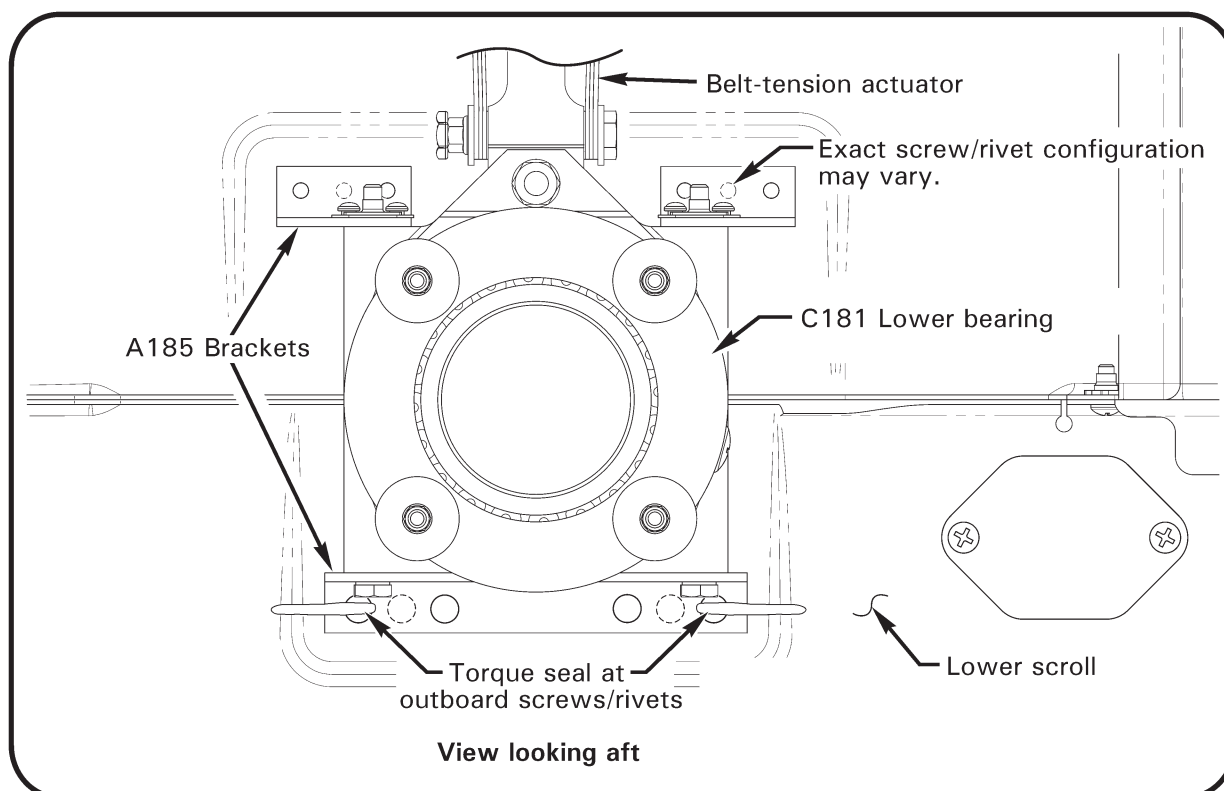

FIGURE 2-11 ACTUATOR LOWER BEARING A185 BRACKETS
**Lower Bearing Brackets:** Refer to Figure 2-11. Visually inspect A185 brackets and attaching screws/rivets for evidence of fretting or looseness. If evidence of looseness is found, contact RHC Technical Support for repair instructions. On lower A185 bracket, apply torque seal in a horizontal stripe across both outboard screws/rivets to lower scroll to facilitate future inspections.